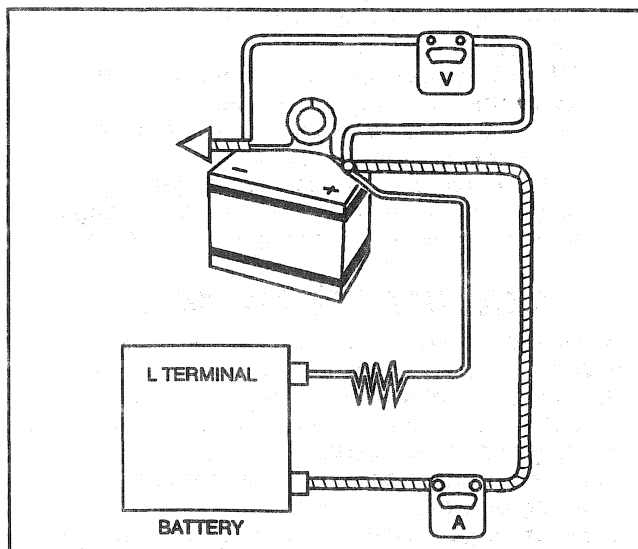

Figure 4—Connections for Generator Output Test
1. Make connections as shown in Figure 4, except leave the carbon pile turned off. The ground polarity of the generator and battery must be the same. The battery must be fully charged. Use a 30 to 500 ohm resistor between the battery and the "L" terminal.